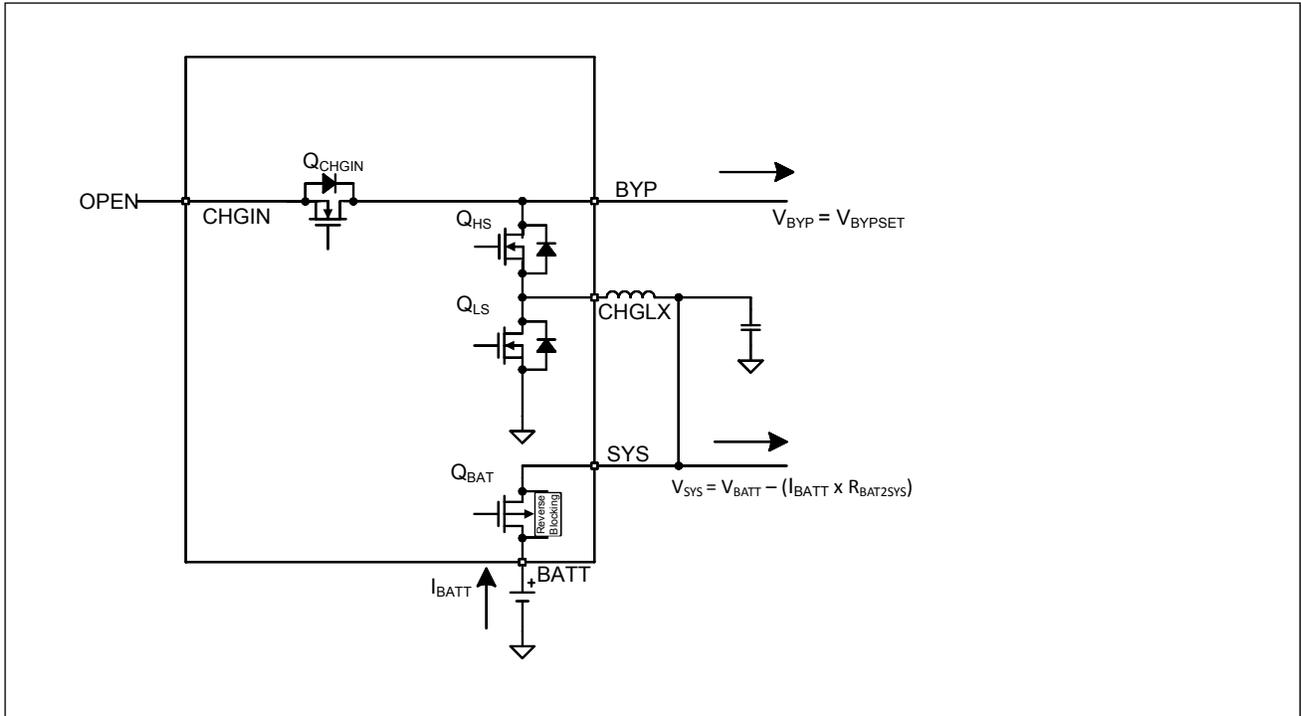

Figure 6. Battery-Boost
3. BATTERY-BOOST, MODE = 0x08: Adapter input is invalid outside the input voltage operating range ($Q_{CHGIN} = \text{off}$). Battery is connected to power the SYS load ($Q_{BAT} = \text{on}$) and charger is operating in boost mode (boost = on), see Figure 6.